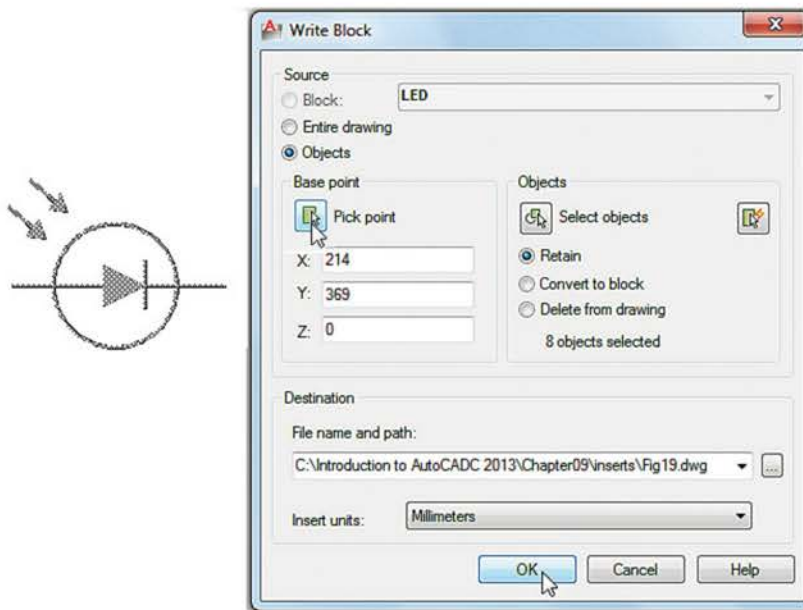

Fig. 13.19 Example – Wblock
EXAMPLE – WBLOCK (FIG. 13.19)
1. Construct a light emitting diode (LED) symbol and *enter w* at the keyboard. The **Write Block** dialog appears (Fig. 13.19).